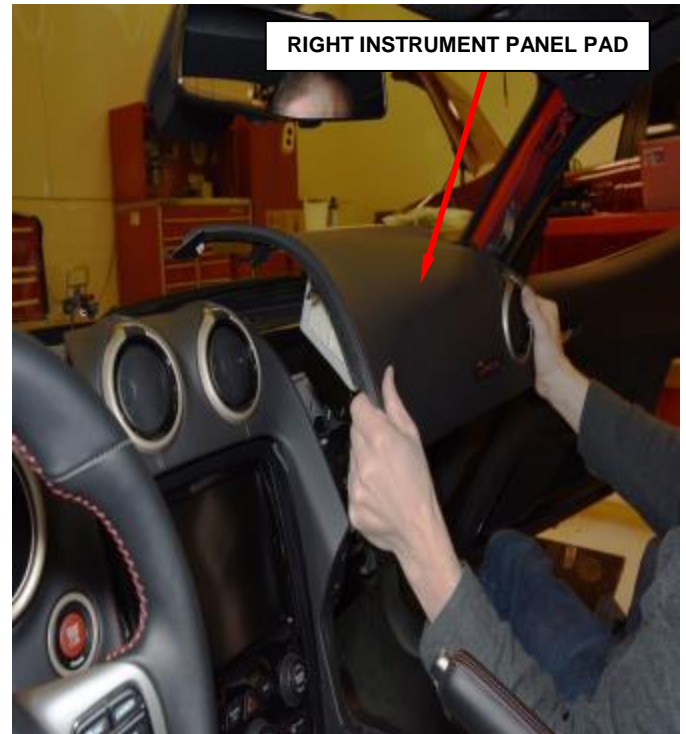

Figure 15 - Remove Instrument Panel Pad
- t. Use C-4755 or equivalent, to release the retaining clips on the right instrument panel pad (Figure 15).
- u. Remove the right instrument panel pad from the vehicle (Figure 15).